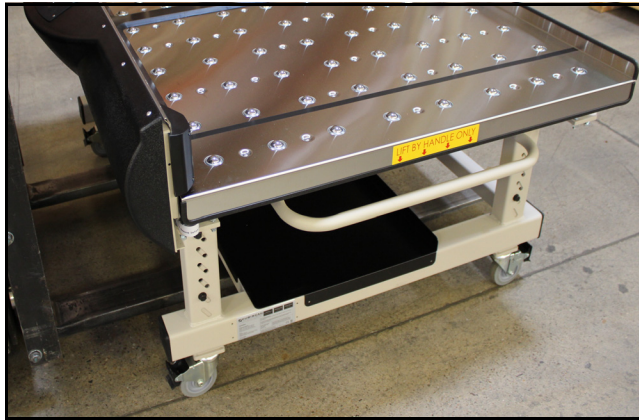

Figure 3
1. Adjust the forks so they can be inserted under the main horizontal frame without touching any other CubiScan components (see Figure 3).